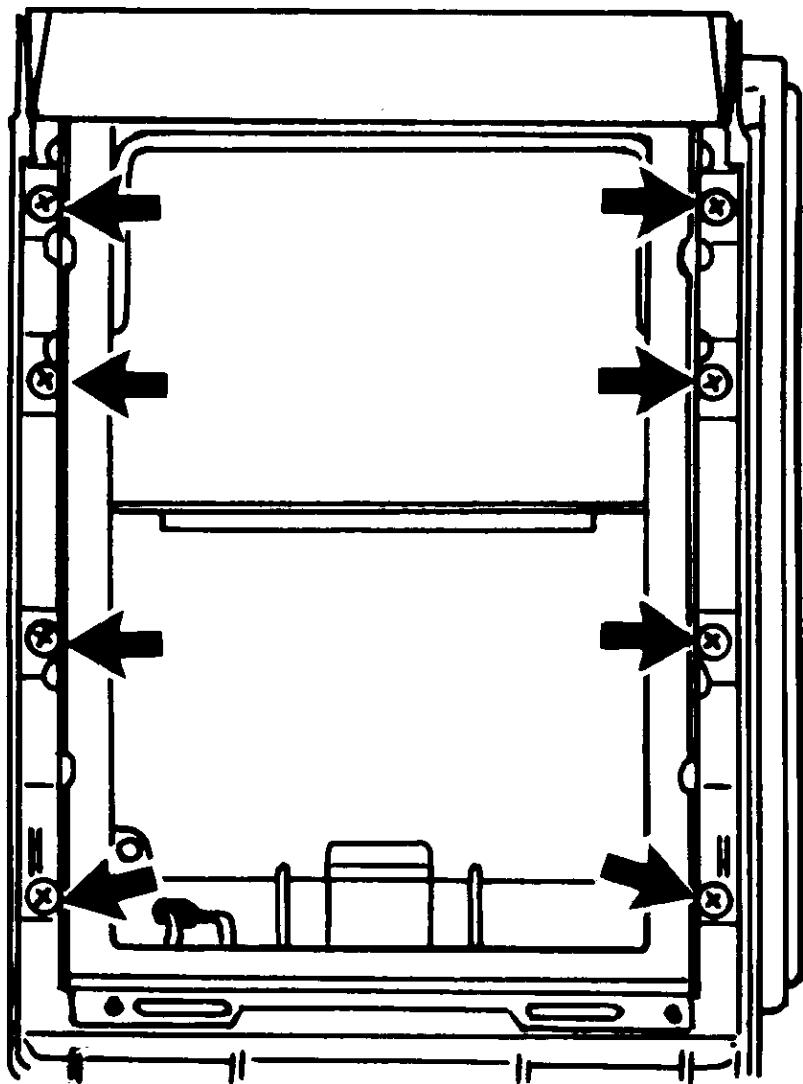

Figure 4-21 Removing Base Slide Spacer Assembly Screws
10.1 Remove eight screws located inside assembly. This also gives access to the Pull Film Switch. (Fig. 4-21)